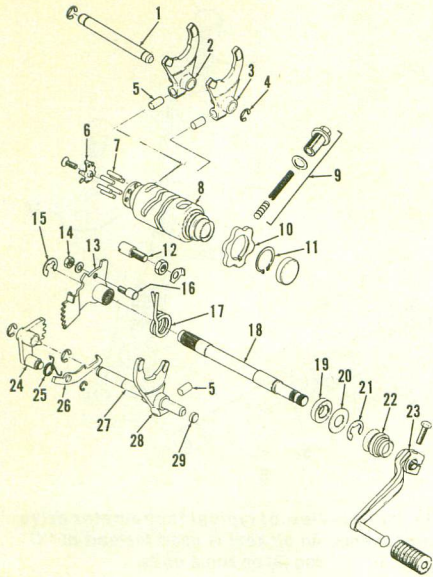
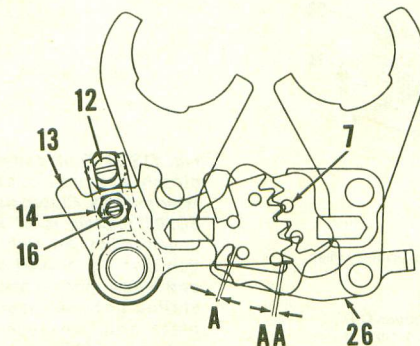

Fig. Y19-22—View of shifter components used on later models.
Fig. Y19-25—View of shift mechanism adjustment for unit shown in Fig. Y19-22. Refer to Fig. Y19-22 for legend.
Gear change mechanism (Fig. Y19-22) used on later models is adjusted by turning eccentric pin (16—Fig. Y19-25). Shift transmission into second or fourth gear and observe clearances (A & AA) between change arm (26) and shift drum pins (7). Loosen lock nut and turn eccentric pin (16) until clearances (A & AA) are equal.